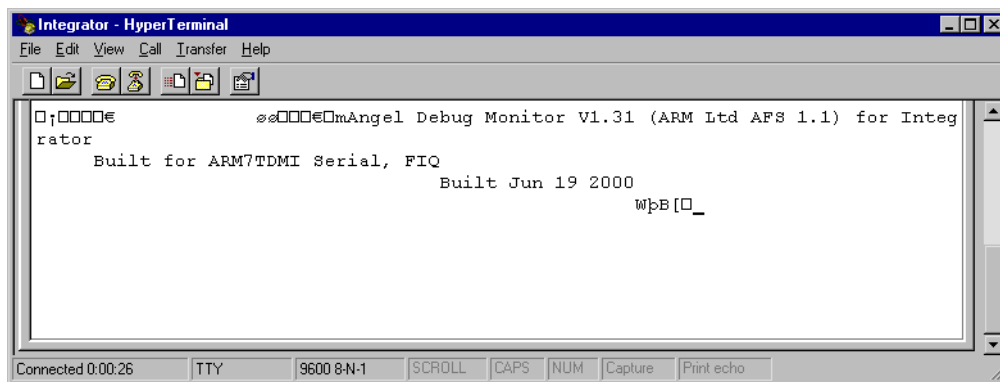

Figure 3-11 Verifying Angel is in flash
4. Angel attempts to communicate with the debugger over the serial port. The terminal emulator displays some symbols and then the Angel banner. The display will be similar to, but not necessarily the same as, that shown in Figure 3-11.